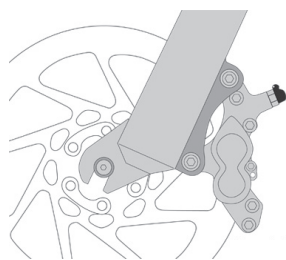
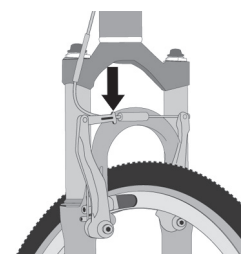

fig. 14
fig. 15
- (1) If your bike has rim brakes, disengage the brake's quick-release mechanism to increase the clearance between the tire and the brake pads (refer to **Page 39, Section 4: "Tech", subsection C: "Brakes"**, figs. 14 through 18).
3. Some bicycle brakes, such as disc brakes (fig. 14) and linear-pull brakes (fig. 15), are extremely powerful. Take extra care in becoming familiar with these brakes and exercise particular care when using them.
Most rim brakes have some form of quick-release mechanism to allow the brake pads to clear the tire when a wheel is removed or reinstalled. When the brake quick-release is in the open position, the brakes are inoperative. Ask your authorized retailer to make sure that you understand the way the brake quick-release works on your bike (see figs. 15, 16, 17 & 18) and check each time to make sure both brakes work correctly before you get on the bike.